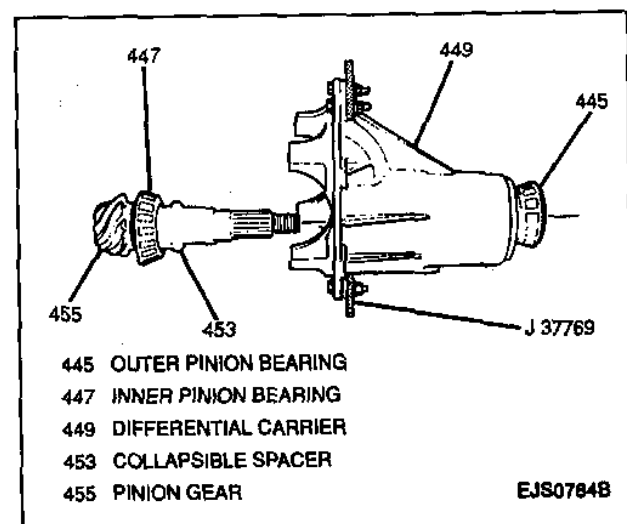

Figure 78—Installing Pinion Gear and Outer Pinion Bearing
4. Outer pinion bearing and pinion gear into differential carrier (Figure 78).